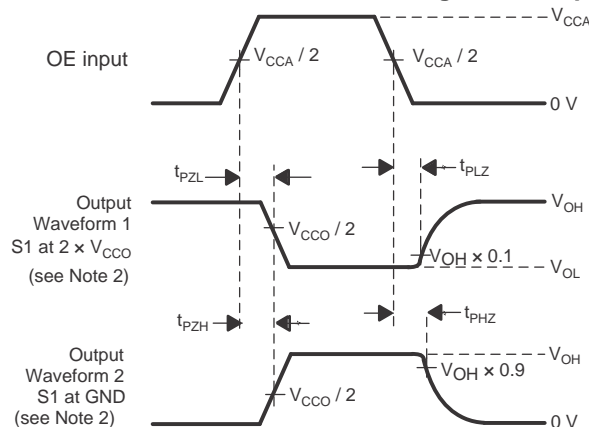

Figure 9. Enable and Disable Times
2. Waveform 1 in Figure 9 is for an output with internal such that the output is high, except when OE is high (see Figure 6). Waveform 2 in Figure 9 is for an output with conditions such that the output is low, except when OE is high.